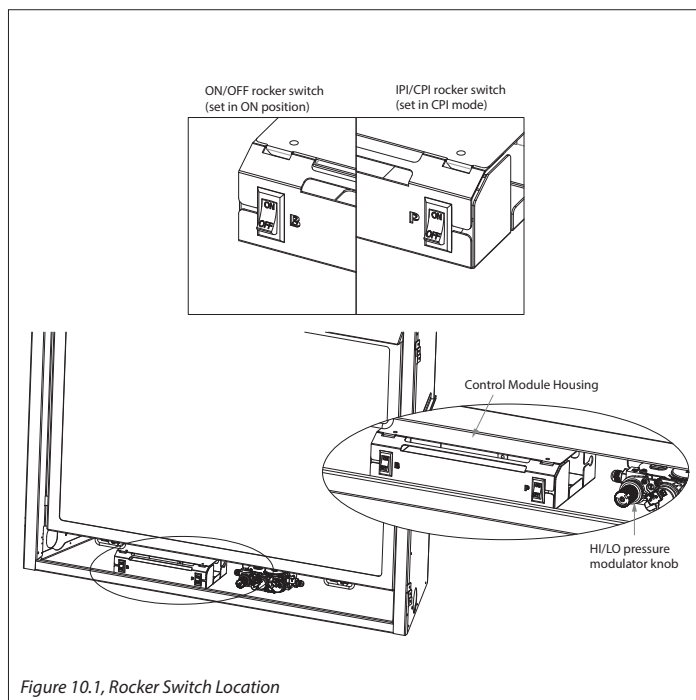

Figure 10.1, Rocker Switch Location
There are (2) rocker switches located on the gas valve housing in the control compartment. You will need to remove the bottom frame to access this. The main burner rocker switch is marked 'B' and the IPI/CPI pilot rocker switch is marked 'P'. See Figure 10.1.
10.1.1.1 7 Day Time-out installations (LE)
NOTE: Figure 10.1 shows the CPI/IPI mode control switch (pilot rocker switch, marked 'P') is already in the ON position. It has first to be turned OFF, then back ON, to re-activate the CPI mode together with the 7 day Time-out counter.